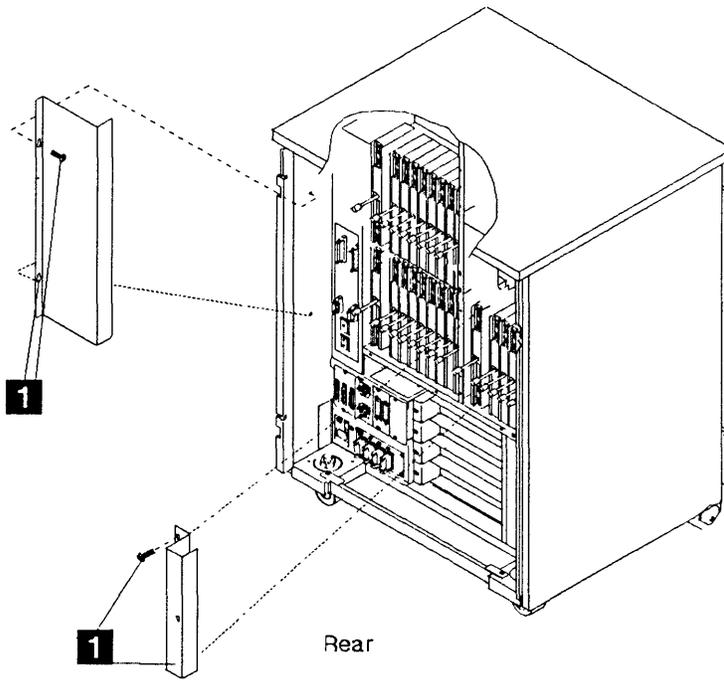

Figure 4-108. DMUX Cover
6. Take away one of the DMUX covers. Refer to Figure 4-108. Two screws must be removed
7. Refer to Figure 4-108 on page 4-79, then install the DMUX cover with 2 screws **1**.